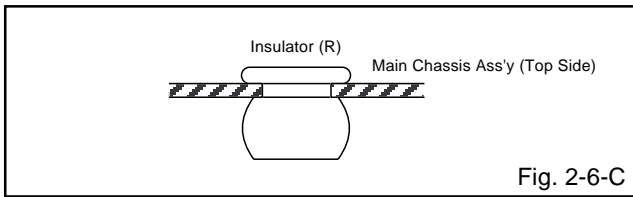

Fig. 2-6-C
## 2-6: TRAVERSE HOLDER/INSULATOR (F)/INSULATOR (R) (Refer to Fig. 2-6-A)
2. Remove the 2 Insulator (F).
3. Remove the Insulator (R).
1. In case of the Insulator (F) installation, install correctly as Fig. 2-6-B.
2. In case of the Insulator (R) installation, install correctly as Fig. 2-6-C.